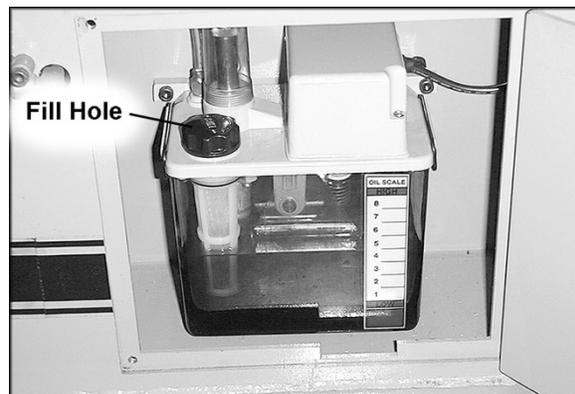

Figure 18
1. Check the oil tank at the infeed side of the machine (Figure 18). If it is not full, remove the cap and add light, 20-weight oil through the fill hole. Replace cap when finished.